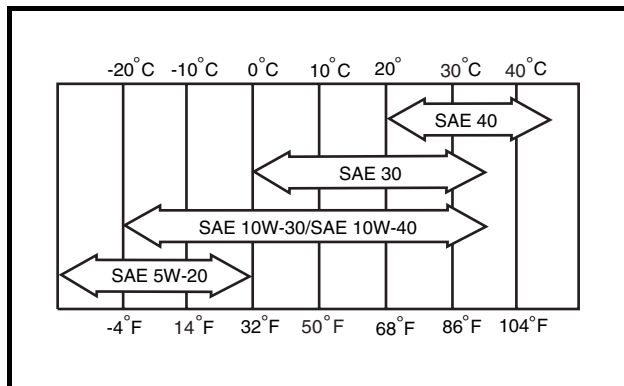

Figure 10-10 Oil Viscosity Chart
14. Remove the dip stick and add engine oil into port. Use a funnel or pour spout to direct the oil (**Figure 10-9, Page 10-6**). With filter change, the engine requires 38 ounces (1.12 liters) of oil per change. Refer to oil viscosity guidelines for selection of oil grade (**Figure 10-10, Page 10-7**).
Choose the viscosity according to the temperature as shown (**Figure 10-10, Page 10-7**). See following NOTE.